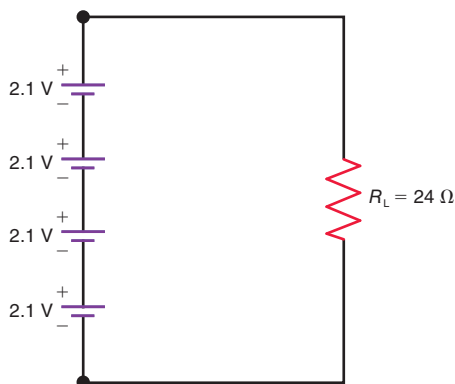

Figure 10-26
10.2 Repeat Prob. 10-1 for the circuit in Fig. 10-26.